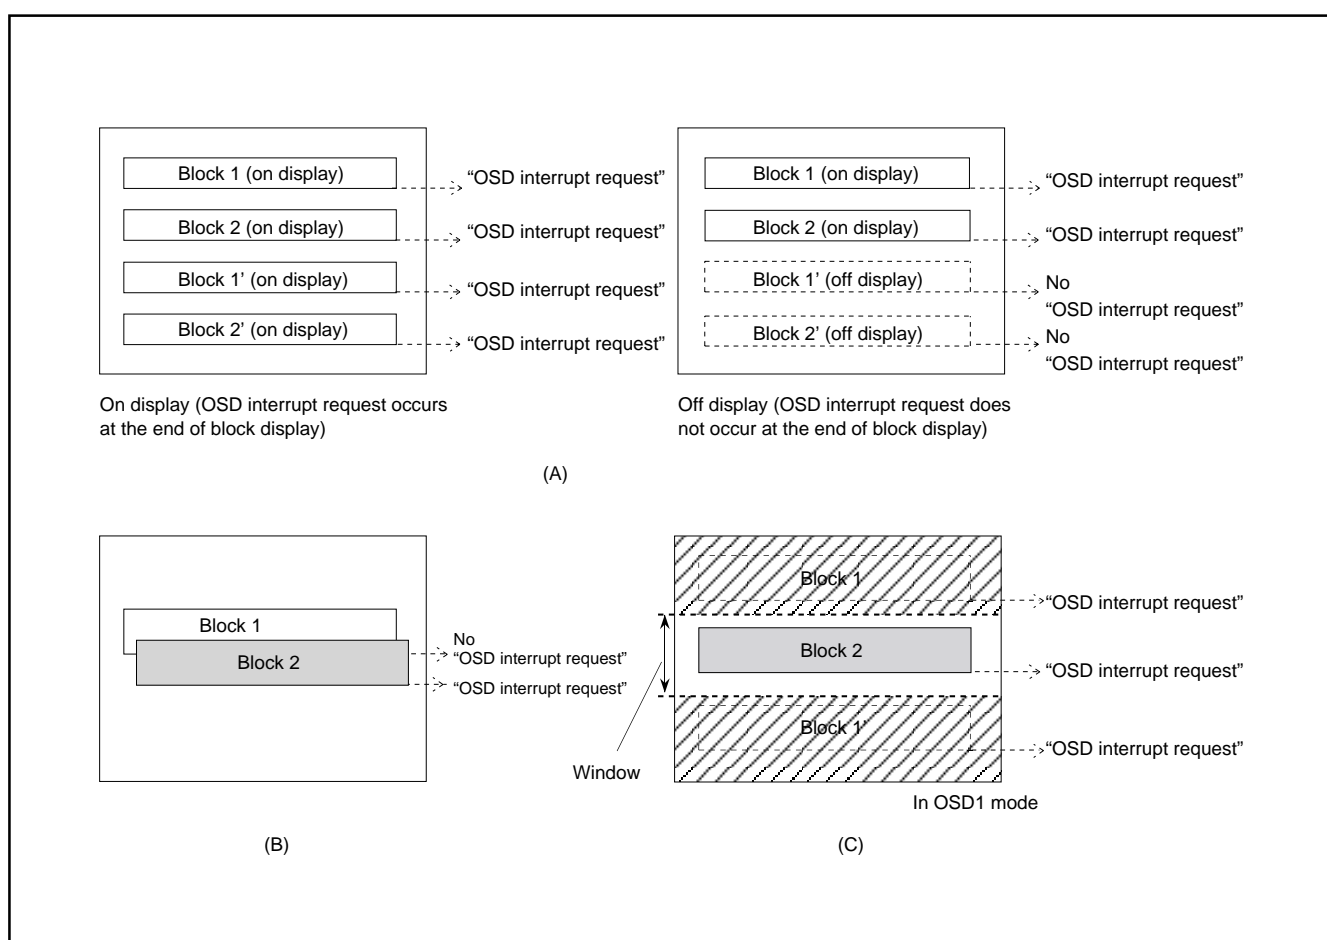

Fig. 8.10.24 Note on Occurrence of OSD Interrupt
Notes 1: An OSD interrupt does not occur at the end of display when the block is not displayed. In other words, if a block is set to display OFF by the display control bit of the block control register (addresses 00D216, 00D316), an OSD interrupt request does not occur (refer to Figure 8.10.24 (A)).
2: When another block display appears while one block is displayed, an OSD interrupt request occurs only once at the end of the second block display (refer to Figure 8.10.24 (B)).
3: On the screen setting window, an OSD interrupt occurs even at the end of the OSD1 mode block (display OFF) out of window (refer to Figure 8.10.24(C)).